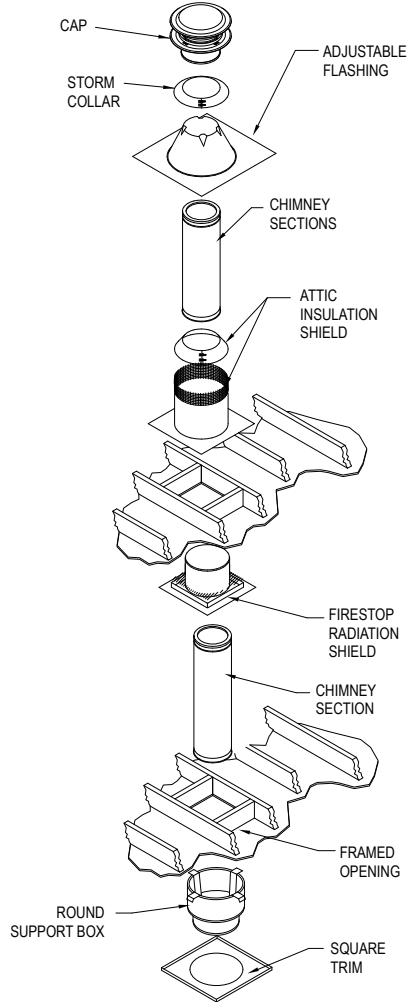

Figure 6
4. Frame Openings: Frame openings in each ceiling or floor above the Support Box (**Fig 6**). These openings are to hold the Firestop Radiation Shield and Attic Insulation Shield. Locate each opening by dropping a plumb bob to the four corners of the opening below. Maintain the minimum clearances and dimensions as specified in **Table 2**. If Elbows must be used to avoid an obstruction, refer to the Offset Elbow Installation section.
including where the chimney penetrates into the attic. **Figure 6** shows a typical 2-story installation with an attic.
- c. Slip the Attic Insulation Shield over the Chimney and Firestop Radiation Shield until the base sits squarely on the framed opening (**Fig 6 & 10**).